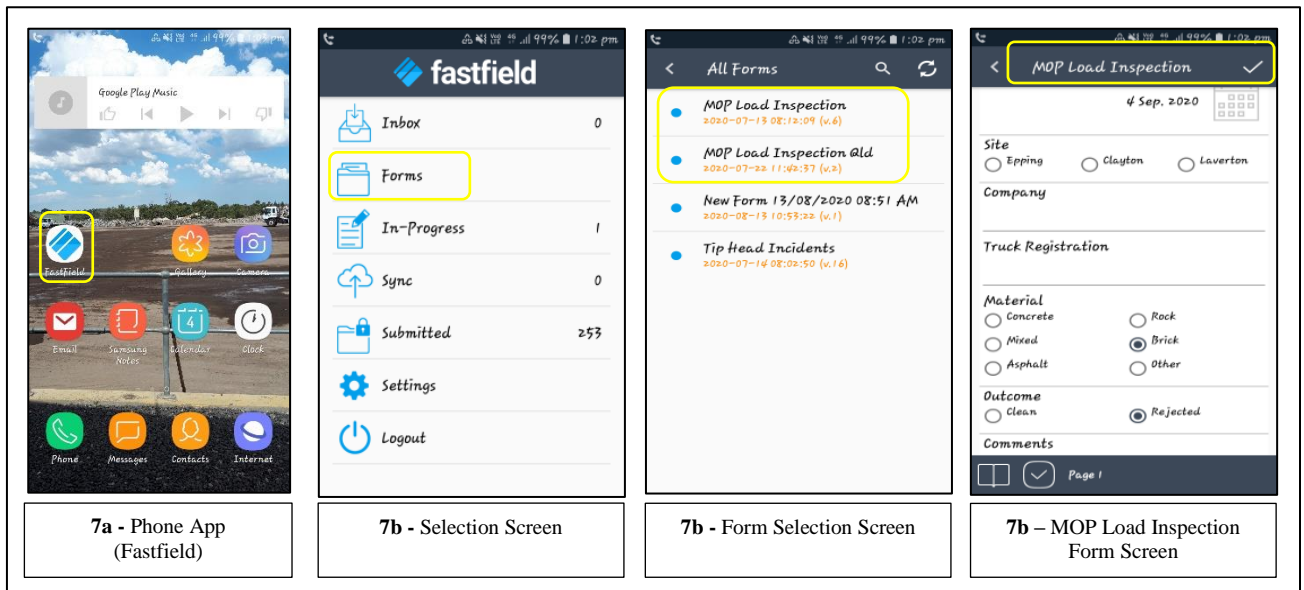

Figure 7 - Member of Public, ACM Load Inspection Register
- The Member of Public, ACM Load Inspection shall be recorded using the Fast field phone application. **Figure 7**